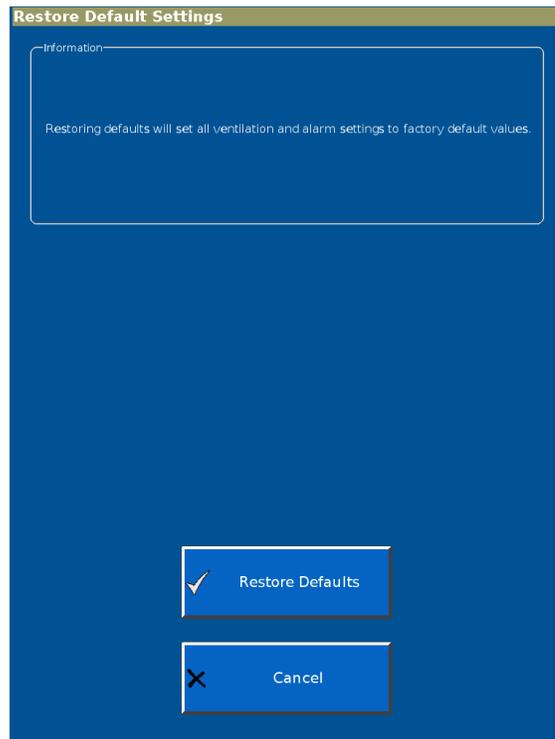

Figure E-7: Restore Default Settings screen
1. From the **System Settings** screen, select **Restore Default Settings** to display the **Restore Default Settings** screen (Figure E-7).